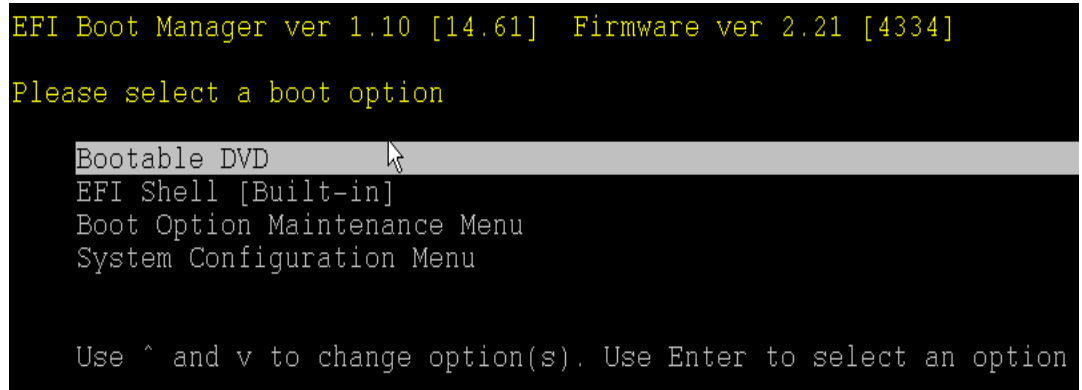

Figure 19: Installing the operating system with the Windows Re-Install CD-ROM
2. Choose **Bootable DVD** from the EFI Boot Manager menu, as shown in Figure 19: